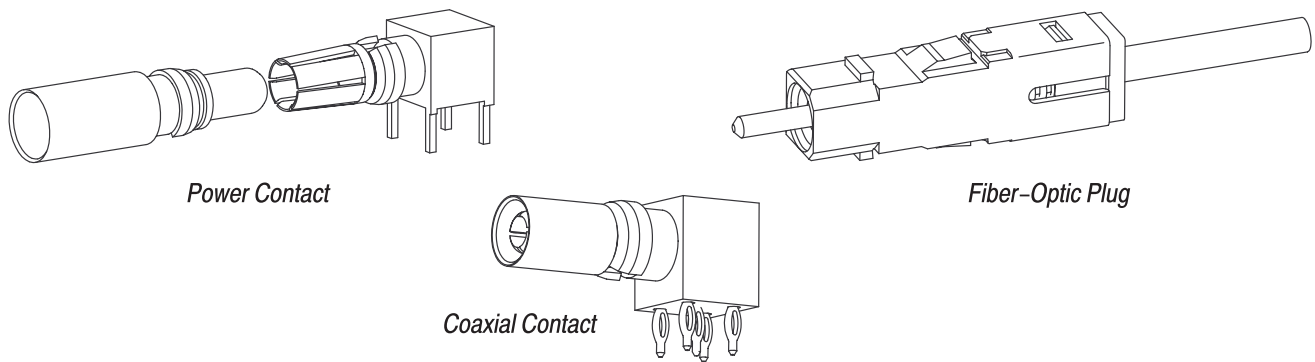

Figure 7
3.11. Special Contacts (Figure 7)